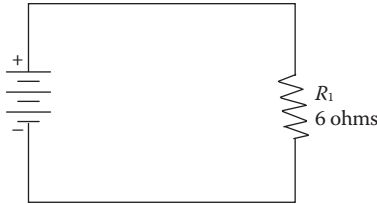

FIGURE 10.2 Determining current in a simple circuit.
Problem: Figure 10.2 shows a circuit containing a resistance (R) of 6 ohms and a source of voltage (E) of 3 volts. How much current (I) flows in the circuit?
To observe the effect of source voltage on circuit current, in the next example we use the circuit shown in Figure 10.2 but double the voltage to 6 volts.
To verify that current is inversely proportional to resistance, assume that the resistor in Figure 10.2 has a value of 12 ohms.